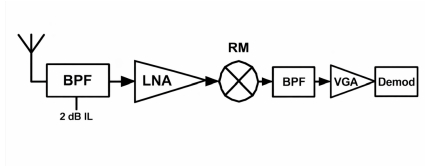
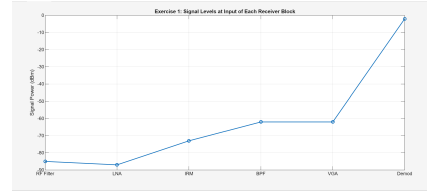

Fig. 3: adding passive band-selection filter between the antenna and LNA with an insertion loss of 2 dB
Fig. 4: Signal level at the input of each block
1. For the Zigbee receiver described in Table 2, add a passive band-selection filter between the antenna and LNA with an insertion loss of 2 dB. Complete and verify the equations in your Matlab script or Excel chart to find the overall NF and IIP3 performance. Plot the signal levels, noise levels and SNR at the input of each block as shown in figure 3 and figure 4. Show explicitly how you calculate input signal and noise levels for building blocks of the receiver. (For all the problems below, don't forget to include passive band-selection filter in your receiver)